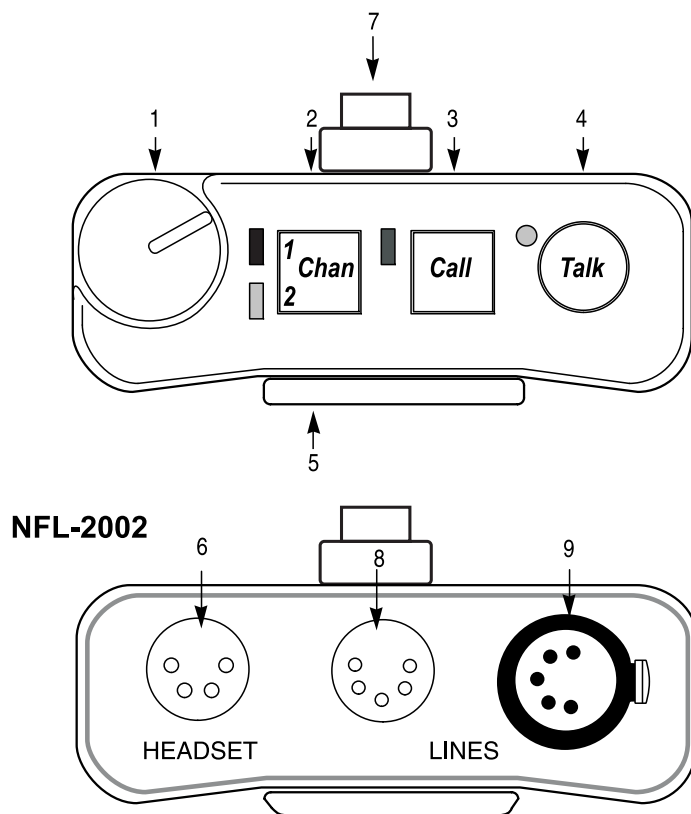
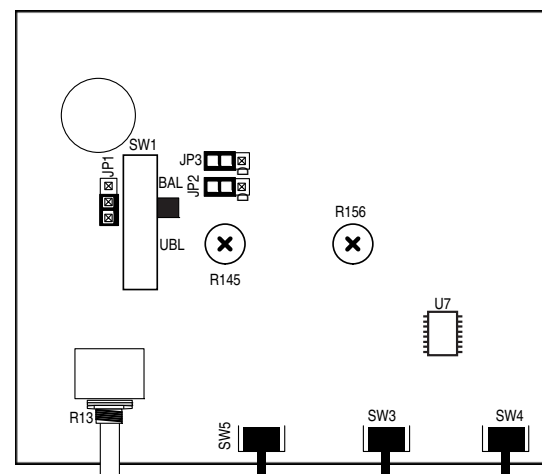

Figure 1. NFL-2002 Connections and Controls
Figure 2. Internal Switches, Jumpers and Adjustments
The side tone adjustment is accessible either internally (refer to Figure 2) or by removing the belt clip mounting screw (callout 5 in Figure 1).
The Mic Gain adjustment is accessible internally on the board (R156), see Figure 2.
Type: XLR-4M (callout 6 in Figure 1)
Type: One XLR-5M (callout 8 in Figure 1)
**NOTE:** The numbers refer to the callouts in Figure 1.
There are several internal switches, jumpers, and adjustments that affect operation. These are described below. To gain access to the switches, jumpers and the adjustments, disconnect all headsets, power and line connections. Remove two screws from the top of each side and two screws from the bottom of each side. Switch, jumper and adjustment locations are shown in Figure 2.